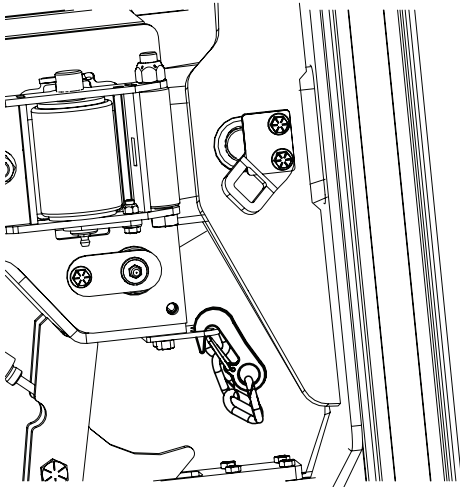

Figure 1
1. Disconnect the secondary arm latch chain from the arm retainer plate and stow the chain by hooking the clip to the larger hole on the boom retainer plate (Figure 1).